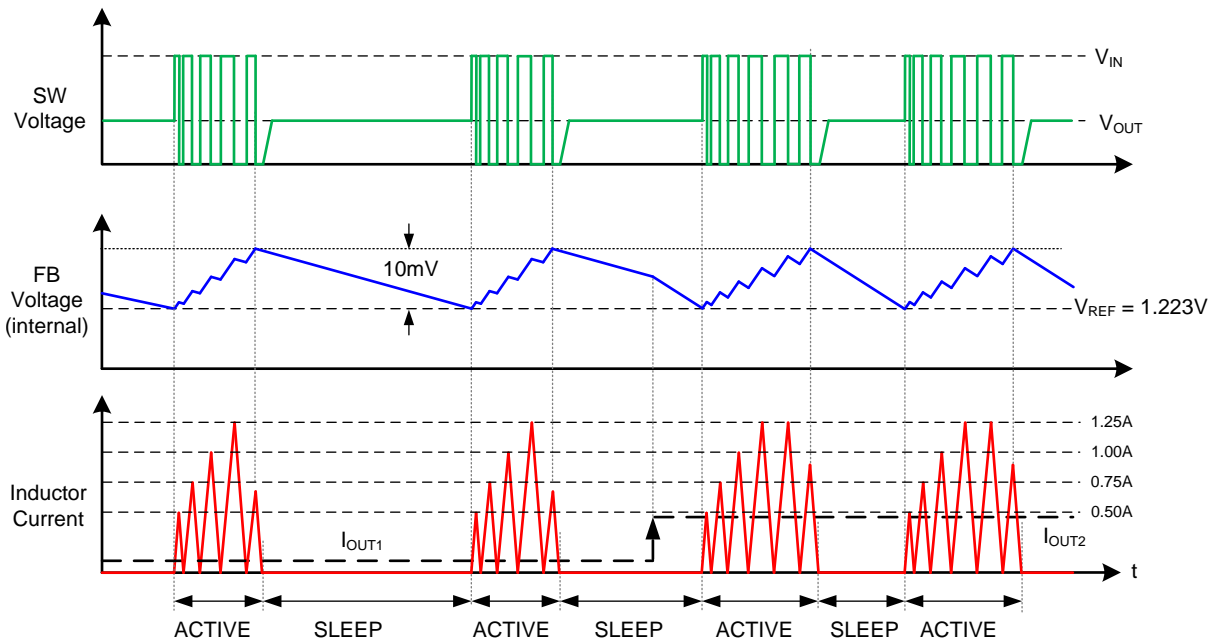

Figure 40. PFM Mode with Modulated I_{LIM} Output Voltage and Inductor Current Waveforms
One of the supported ILIM settings enables a function that modulates the peak current threshold levels during the first three switching cycles of each active period as illustrated in Figure 40. This function improves efficiency under most application conditions at the expense of slightly degraded transient load response.
(1) For this current limit threshold selection, the ILIM pin may also be left open instead of using a 100 k Ω or greater resistor.
(2) This I_{LIM} setting enables a function that modulates the I_{LIM} levels during the first three switching cycles as illustrated in Figure 40.